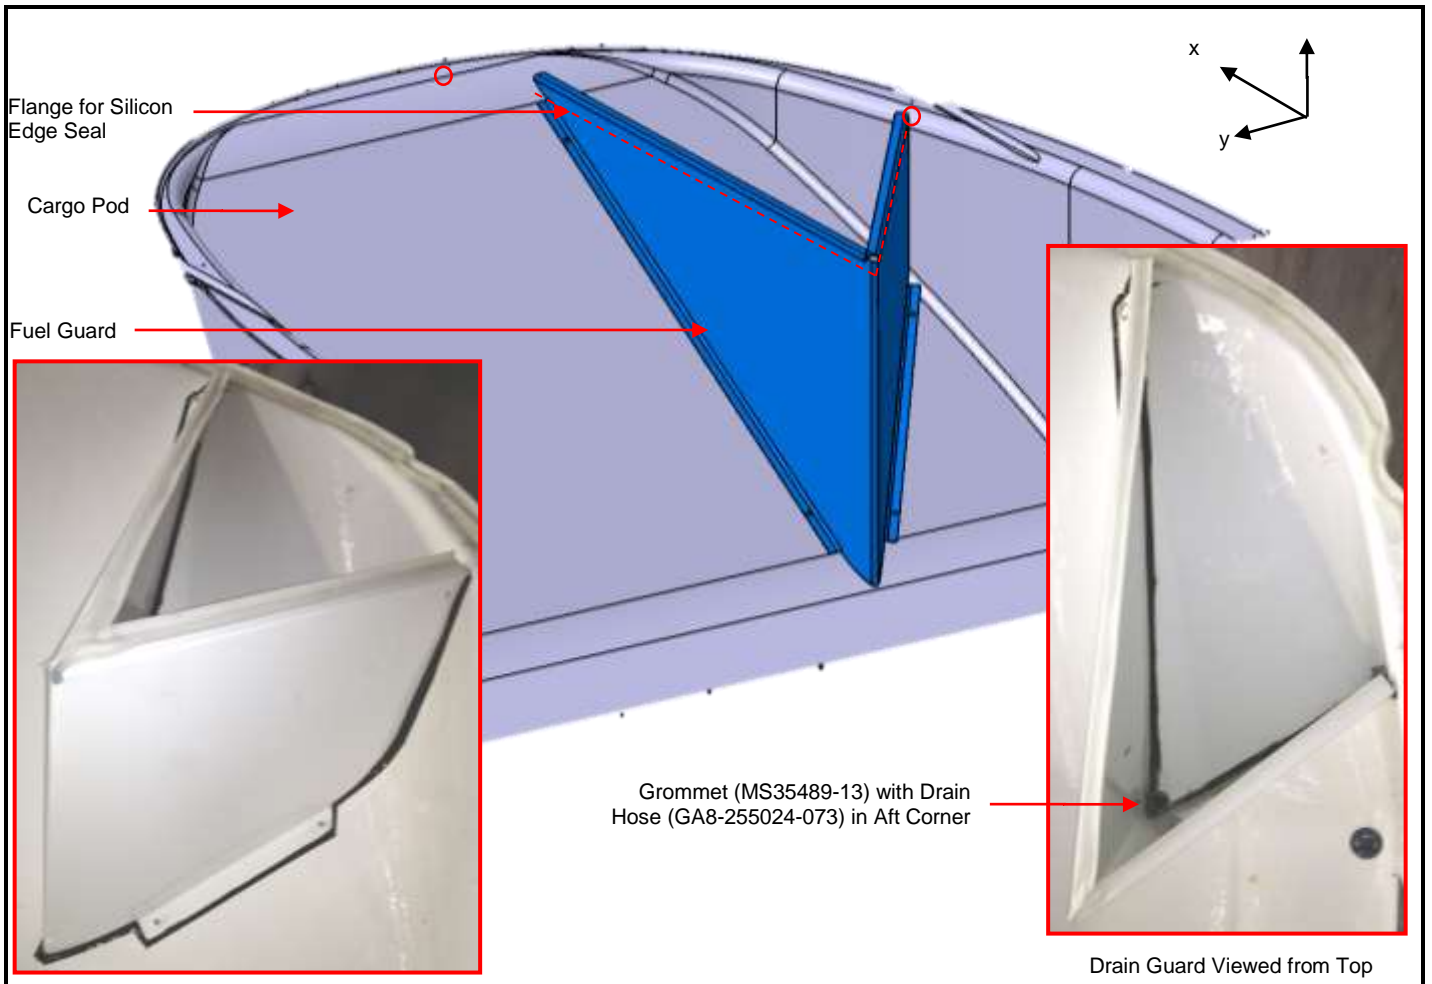

Figure 12: Cargo Pod Fuel Guard Installation
- c. Align the cargo pod fuel guard within the cargo pod. The left guard wall should be aligned with the right forward attachment hole. The right guard wall must be aligned with the 3rd right forward attachment hole. Confirm that hole 6 will drain within the cargo pod guard. Trim cargo pod guard to suit internal geometry of cargo pod (only if required). See Figure 12.
- k. Drill $\text{\O}0.750$ " hole for drainage in cargo pod at aft corner of fuel drain compartment, deburr the hole ensuring no sharp edges remain, Figure 12.
- l. Line the hole using the grommet (MS35489-13), Figure 12.